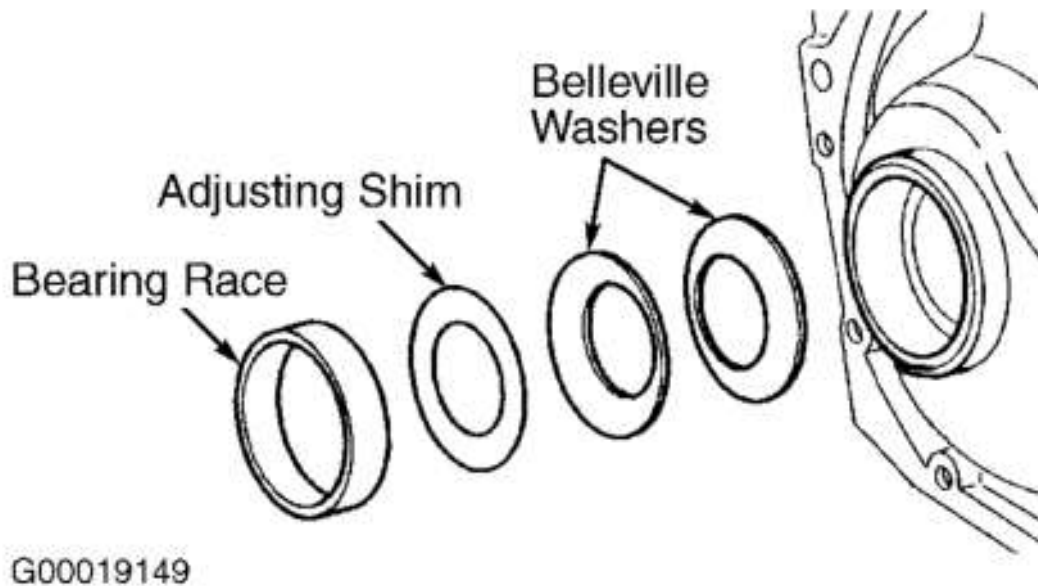

Fig. 29: Installing Adjusting Shim & Belleville Washers
10. Remove all special tools. Separate transaxle housing sections. Remove bearing race and measuring shim. Install Belleville washers so inner diameters are touching. See **Fig. 29** . Install determined adjusting shim and bearing race. Using a hammer and punch, stake bearing race into place with punch marks on edge of housing.